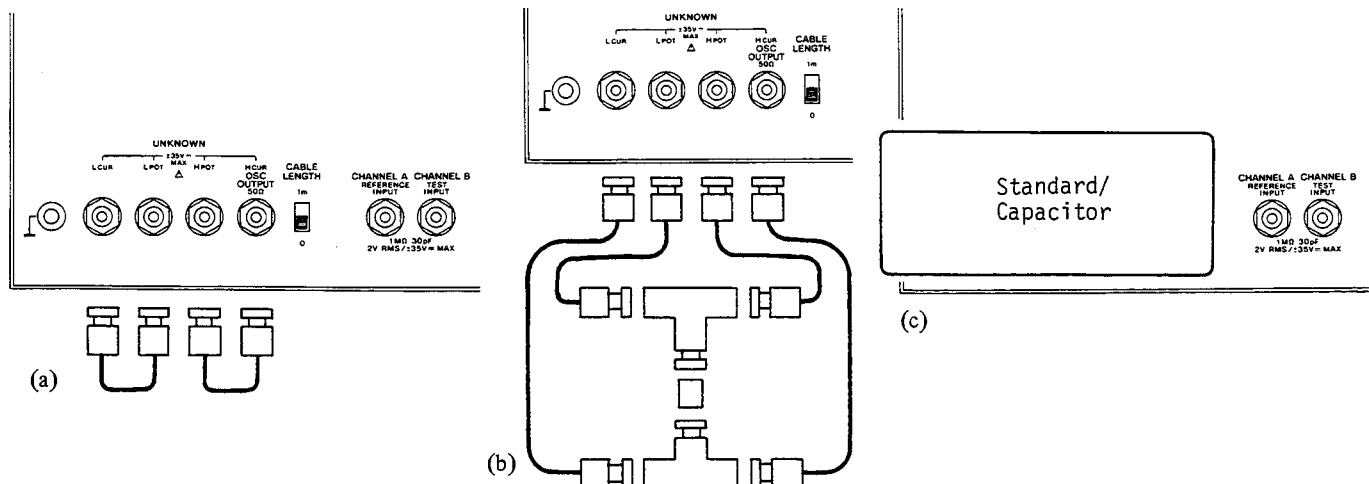

Figure 4-3. Capacitance Accuracy Test Setups
Note: If the OPEN and SHORT terminations are not available, use the test setups shown in Figure 4-3 (a) and (b) for steps b and d, respectively. Equipment required for these alternate test setups is as follows:
- b. Connect the OPEN termination directly to the UNKNOWN terminals as shown in Figure 4-3 (c).
- d. Connect the SHORT termination directly to the UNKNOWN terminals as shown in Figure 4-3 (c).
- f. Connect the 1 pF Standard Capacitor directly to the UNKNOWN terminals as shown in Figure 4-3 (c).